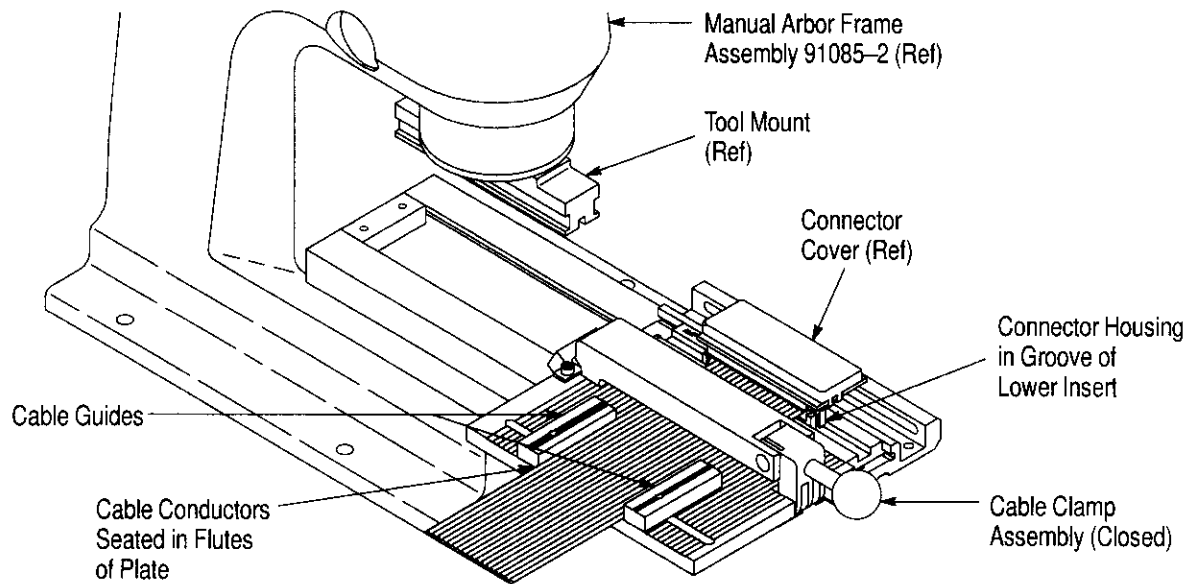

Figure 2
**4. TERMINATION PROCEDURE** (Figure 2)